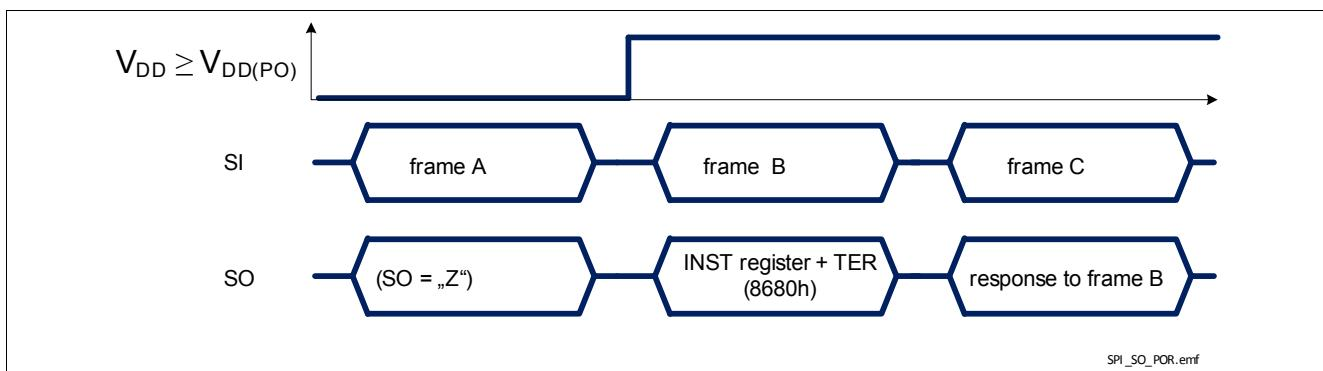

Figure 35 TLE75242-EMD response after coming out of Power-On reset at  $V_{DD}$
- when TLE75242-EMD logic supply comes out of Power-On reset condition or after a Software Reset, as shown in Figure 35